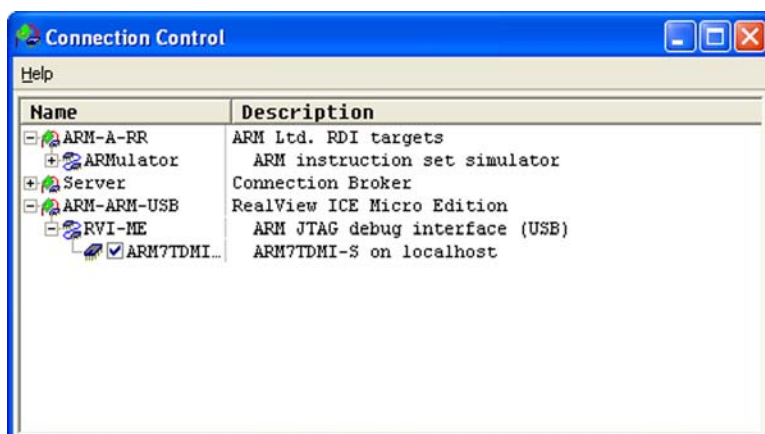

Figure 5-70. RealView Debugger Connection Control with On-Chip Debugger Target
6. Select the **ARM7TDMI-S** check box under the Name tree. It may be necessary to expand the **RVI-ME** branch first, as shown in Figure 5-70.